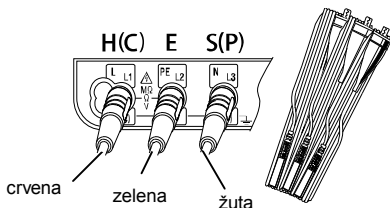

Fig.41
2. Umetnuti test pipalice (MODEL7228) u instrument. (Fig.41)